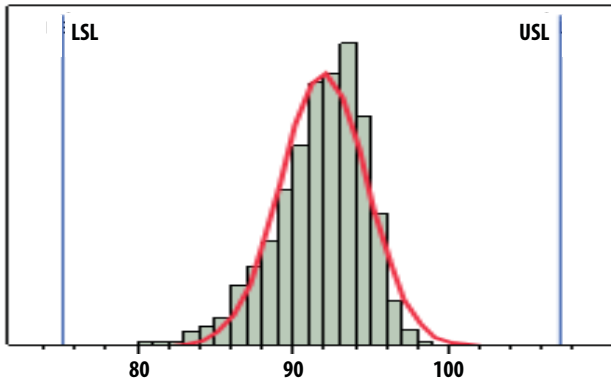

Figure 1. Idd, LSL = 75 mA, nominal = 92 mA, USL = 107 mA
RF performance at $T_A = 25^\circ\text{C}$, $V_{dd} = 5\text{ V}$, 915 MHz, measured on demo board in Figure 1 with component listed in Table 1 for DC bypass.
1. Measurements at 915 MHz obtained using demo board described in Figure 1.